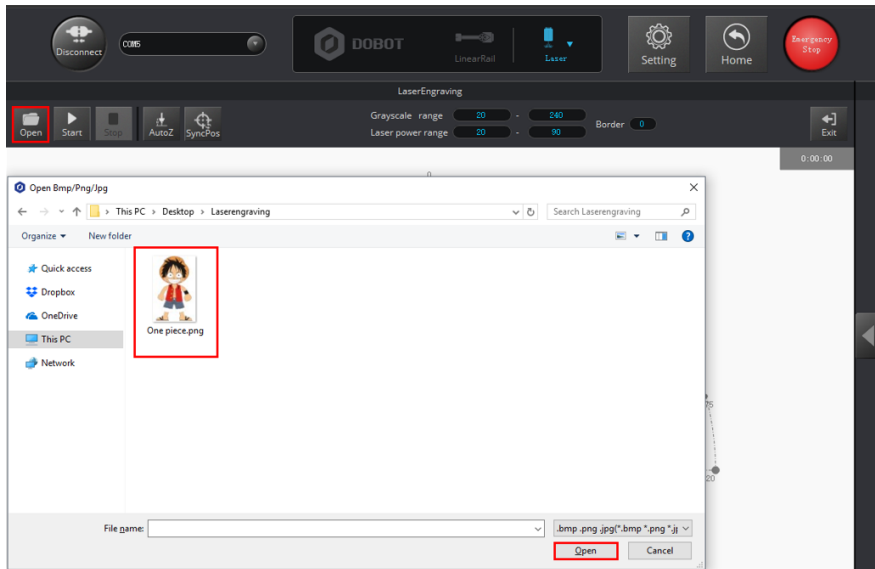

Figure 5.95 Import an image file
Step 2 Click **Open** to import an image file such as BMP, JPEG, or PNG, as shown in Figure 5.95.